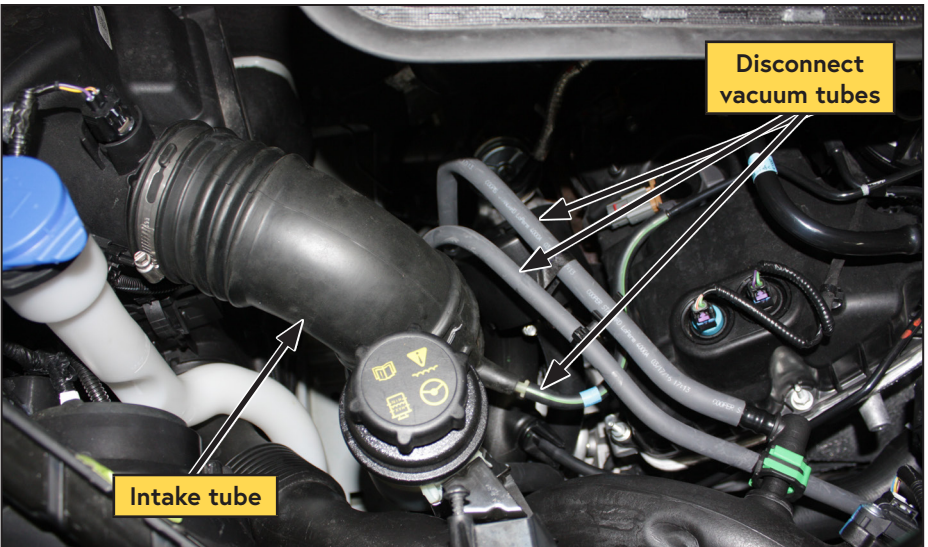

Figure 9 — Remove intake tube
- Disconnect the vacuum tube from the intake elbow (Figure 9).
- Disconnect the 2 vacuum tubes that run down the passenger side of the engine and secure them out of the way with cable ties (Figure 9).
- Loosen the 2 hose clamps on the intake tube (Figure 9).